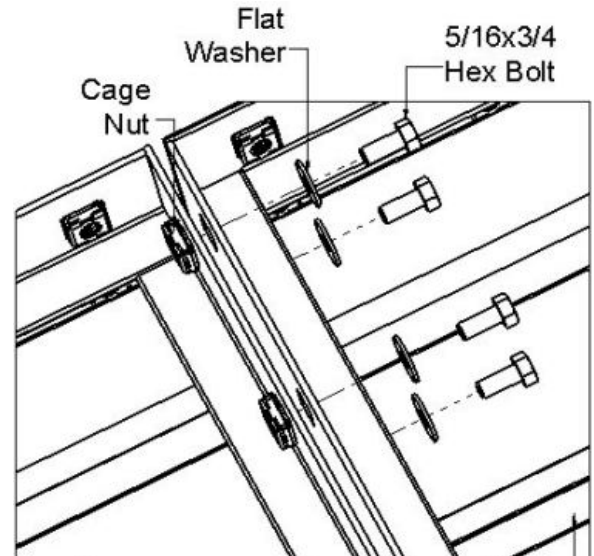

Fig.3.12
3.5 Multiple Platform Base Open Side Assembly: To connect platform bases remove cage nuts from one of the platforms at the seam. Place a 5/16x3/4 hex bolt with washer through the square hole on the inside of the landing channel and thread hex bolt into the aligning cage nut on the opposite platform (**Fig.3.12**). It is not necessary to connect at every cage nut location. Depending on the platform rise this connection can either be made before or after attaching the handrail and legs. It is recommended that platform applications with a rise greater than 24" be connected after installing the handrail and legs.